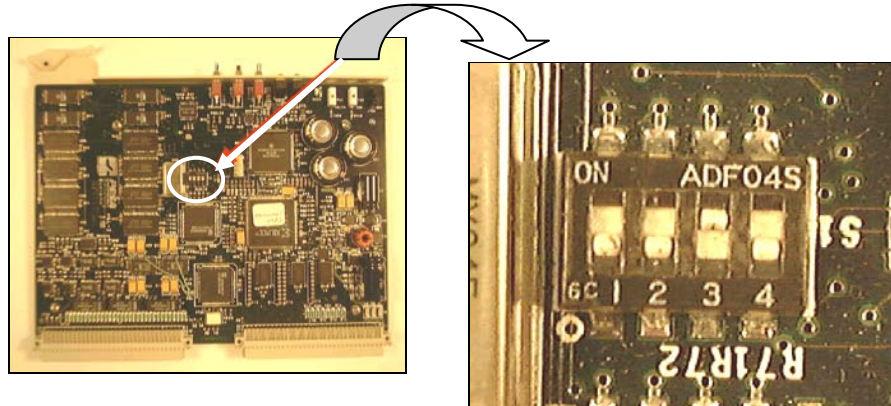

FIGURE 58: 3500 Series Card Dipswitch Locations (set for 9,600 baud rate)
- 2) Remove the 3500 Series card(s) and verify the S1 dipswitch (see Figure 58) settings are correct for the baud rate that you are going to use. If necessary, refer to P/N 81-9059-0432-0 A (03-99 3500Plus Dipswitch Setting Information Technical Bulletin).
The dipswitch should be set in accordance with Table 27 before the 3500Plus System Controller is installed. For normal operation at **9,600 Baud**, all four switches should be in the **OFF** position as shown in Figure 58. (However, the factory default is 38,400 Baud-rate with switch #3 in the ON position.)